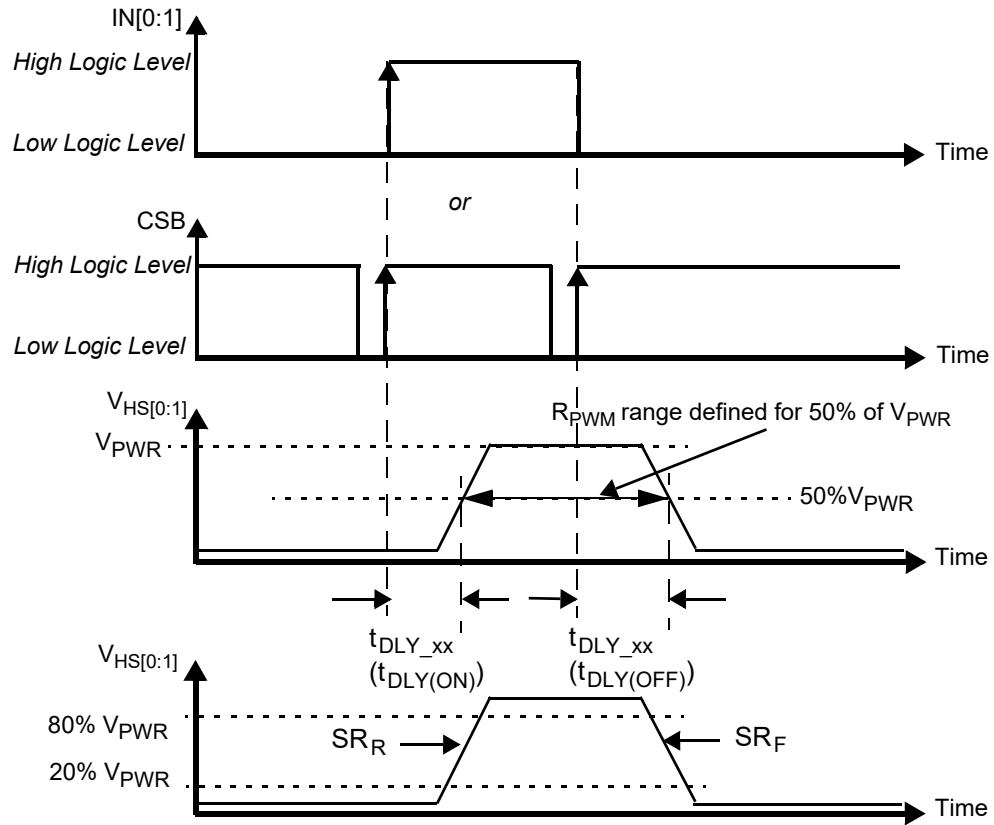
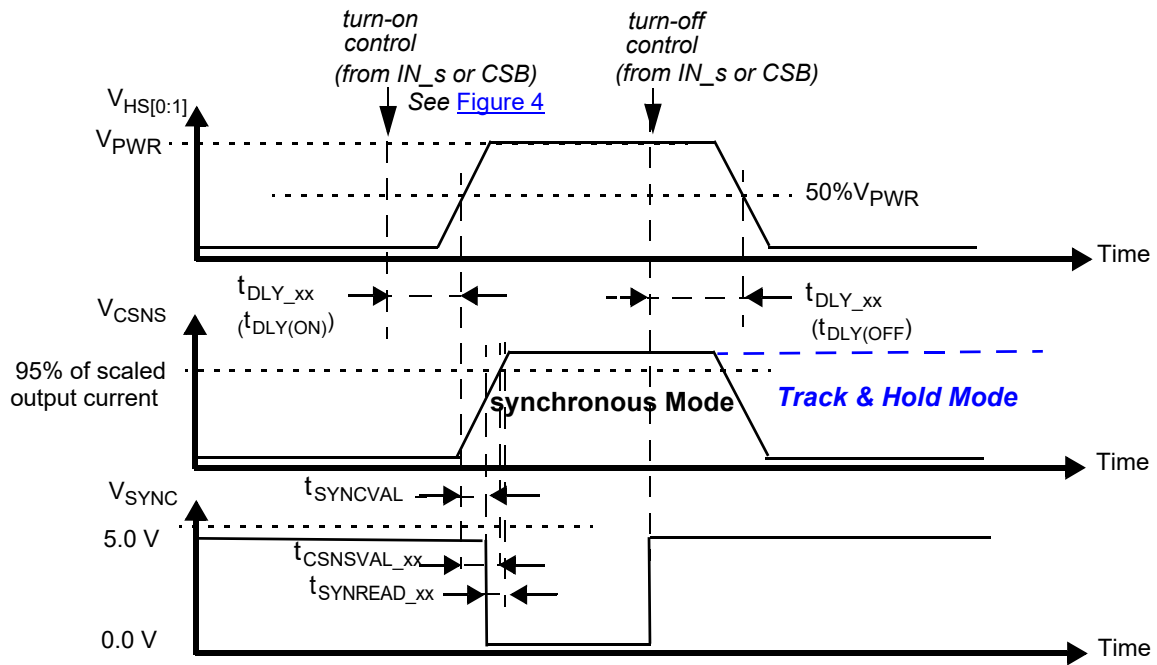

Figure 4. Output voltage slew rate and delay
Figure 9. Synchronous and Track & Hold current sensing modes: associated delay and settling times
31. Rising and Falling edge slew rates specified for a 20 to 80% voltage variation on a  $10\ \Omega$  resistive load (see Figure 4).
33. Time required to switch off the channel after detection of overtemperature (OT), overcurrent (OC), SC or UV error (time measured between start of the negative edge on the FSB pin and the falling edge on the output voltage until  $V(\text{HS}[0:1]) = 50\%$  of  $V_{PWR}$ ).
34. Settling time ( $= t_{\text{CSNSVAL\_xx}}$ ), SYNC output signal delay ( $= t_{\text{SYNCVAL\_xx}}$ ) and Read-out delay ( $= t_{\text{SYNREAD\_xx}}$ ) are defined for a stepped load current ( $100\text{ mA} < I(\text{LOAD}) < I(\text{OCLX\_A\_FOR\_CSNS\_RATIO\_S} = 1)$ , AND  $300\text{ mA} < I(\text{LOAD}) < I(\text{OCLX\_A\_0\_FOR\_CSNS\_RATIO\_S} = 0)$ ). (see Figure 9 and Output current monitoring \(CSNS\))
35. Settling time ( $= t_{\text{CSNSVAL\_xx}}$ ), SYNC output signal delay ( $= t_{\text{SYNCVAL\_xx}}$ ) and Read-out delay ( $= t_{\text{SYNREAD\_xx}}$ ) are defined for a stepped load current ( $100\text{ mA} < I(\text{LOAD}) < I_{\text{OCLX A FOR CSNS\_RATIO\_S}} = 1$ , AND  $300\text{ mA} < I(\text{LOAD}) < I_{\text{OCLX A\_0 FOR CSNS\_RATIO\_S}} = 0$ ). (see Figure 9 and Output current monitoring \(CSNS\))
The CS pin allows independent current monitoring of channel 0 or channel 1 up to the steady-state overcurrent threshold. It can also be used to sense the device temperature. The different functions are selected by setting bits CSNS1\_en and CSNS0\_en to the appropriate value (Table 23). When the CSNS pin is sensed during switch-off in the (optional) track & hold mode (see Figure 9), it outputs the scaled value of the load current as it was just before turn-Off. When several devices share the same pull-down resistor, the CSNS pins of devices, the current of which is not monitored, must be tri-stated. This is accomplished by setting CSNS0\_en = 0 and CSNS1\_en = 0 in their GCR register (Table 12). Settling time ( $t_{CSNSVAL\_XX}$ ) is defined as the time between the instant at the middle of the output voltage’s rising edge ( $HS[0:1] = 50\%$  of  $V_{PWR}$ ), and the instant at which the voltage on the CSNS pin has settled to  $\pm 5.0\%$  of its final value. Anytime an overcurrent window is active, the CSNS pin is disabled (see Overcurrent detection on resistive and inductive loads). The current and temperature sensing functions are unavailable in Fail-safe mode and in Normal mode when operating without the  $V_{DD}$  supply voltage. In order to generate a voltage output, this pin requires a pull-down resistor ( $R(CSNS)=1.0\text{ k}\Omega$  typ. and  $470 < R(CSNS) < 10\text{ k}$ ). When the current sense resistor connected to the CSNS pin is disconnected, the CSNS voltage is clamped to  $V_{CL(CSNS)}$ . The CSNS pin can source currents up to about 5.6 mA.
To synchronize current sensing with an external process, the SYNC signal can be connected to a digital input of an external MCU. An open-drain pull-down on SYNC indicates that the current sense signal is accurate and ready to be read. The current sense signal on the CSNS pin has the specified accuracy  $t_{SYNCREAD\_XX}$  seconds after the falling edge on the SYNC pin (Figure 9) and remains valid until a rising edge is generated. The rising edge that is generated by the SYNC pin at the turn-OFF instant (internal or external) may also be used to implement synchronization with the external MCU. Parameter  $t_{SYNCVAL\_xx}$  is defined as the time between the instant at the middle of the output voltage rising edge ( $HS[0:1] = 50\%$  of  $V_{PWR}$ ), and the instant at which the voltage on the SYNC-pin drops below 0.4 V ( $V_{SOL}$ ). The SYNC pins of different devices can be connected together to save micro-controller input channels. However, in this configuration, the CSNS of only one device should be active at a time. Otherwise, the MCU is not be able to determine the source of the SYNC signal. The SYNC pin requires an external pull-up resistor to  $V_{DD}$ .